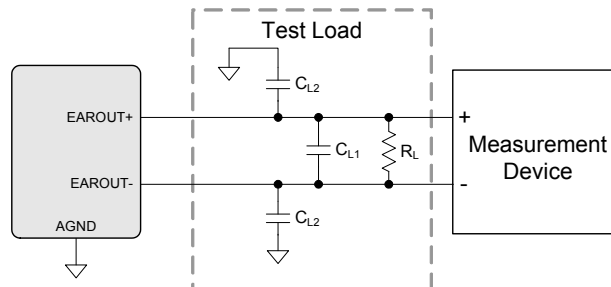
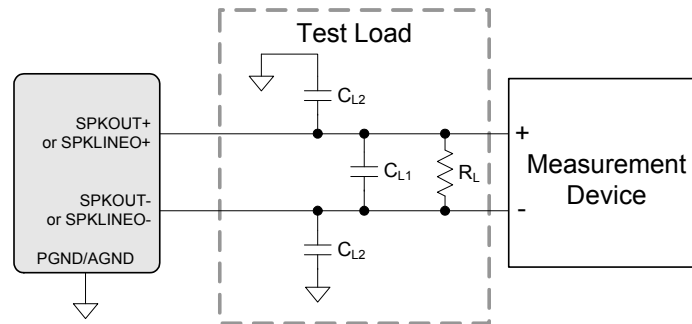

Figure 7. Ear Speaker Output Test Configuration
Figure 8. Speakerphone and Speakerphone Line Output Test Configuration
Test conditions (unless otherwise specified): Connections to the CS42L73 are shown in the “Typical Connection Diagram” on page 17; Input test signal is a 24-bit full-scale 997 Hz sine wave with 1 LSB of triangular PDF dither applied; GND = AGND = PGND = CPGND = DGND = 0 V; all voltages are with respect to ground (GND); VA = 1.80 V; T_A = +25 °C; Measurement Bandwidth is 20 Hz to 20 kHz; Fs = 48 kHz (Note 10); ASP is used and is in slave mode with Fs_{ext} = 48 kHz; test loading is configured as per Figure 7 on page 30 (R_L, C_{L1}, and C_{L2} as indicated in the table below for R_{L(Min)}, C_{L1(Max)}, and C_{L2(Max)}); Mixer Attenuation = 0 dB, Digital Volume = -2.5 dB, Digital Mute is disabled.
41. Refer to Figure 7 on page 30 and Figure 8 on page 32 to observe Ear-Speaker, Speakerphone, and Speakerphone Line-Output test configurations.
Test conditions (unless otherwise specified): “Typical Connection Diagram” on page 17 shows CS42L73 connections; Input test signal is a 24-bit full-scale 997 Hz sine wave with 1 LSB of triangular PDF dither applied; GND = AGND = PGND = CPGND = DGND = 0 V; all voltages are with respect to ground (GND); VA = 1.80 V, VP = 3.70 V; TA = +25 °C; Measurement Bandwidth is 20 Hz to 20 kHz; Fs = 48 kHz (Note 10); ASP is used and is in slave mode with Fs_{ext} = 48 kHz; test loading is configured as per Figure 8 on page 32 (RL, CL1 (= CL1(Max)) and CL2 (= CL2(Max)) as indicated in the table below); Mixer Attenuation = 0 dB, Digital Volume = -5.5 dB, Digital Mute is disabled, SPK_LITE_LOAD = 0b and 1b for RL = 8 Ω and 50 kΩ, respectively.
Test conditions (unless otherwise specified): Connections to the CS42L73 are shown in the “Typical Connection Diagram” on page 17; Input test signal is a 24-bit full-scale 997-Hz sine wave with 1 LSB of triangular PDF dither applied; GND = AGND = PGND = CPGND = DGND = 0 V; all voltages are with respect to ground (GND); VA = 1.80 V, VP = 3.70 V; T_A = +25 °C; Measurement Bandwidth is 20 Hz to 20 kHz; Fs = 48 kHz (Note 10); ASP is used and is in slave mode with Fs_{ext} = 48 kHz; test loading is configured as per Figure 8 on page 32 (R_L, C_{L1}, and C_{L2} as indicated in the table below for R_{L(Typ)}, C_{L1(Max)}, and C_{L2(Max)}); Mixer Attenuation = 0 dB, Digital Mute is disabled.